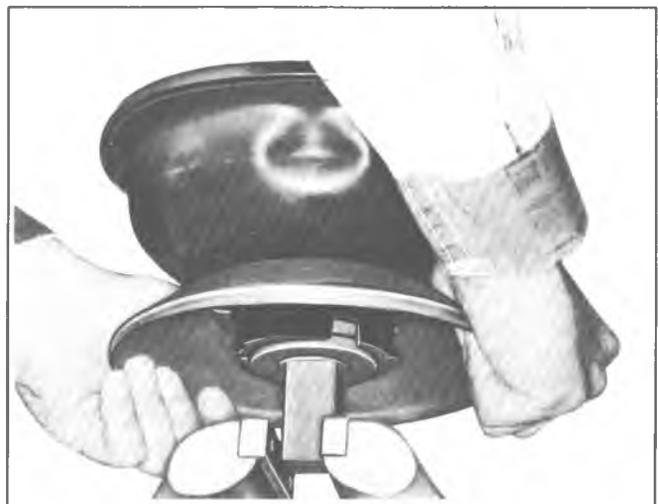

Fig. 5-9C--Positioning Power Piston on Support Plate Remover
6. Pull diaphragm edges away from support plate so hands can grip steel support plate. Position assembly on power piston Wrench J-21524 so three lugs on tool fit into three notches in power piston (fig. 5-9C).